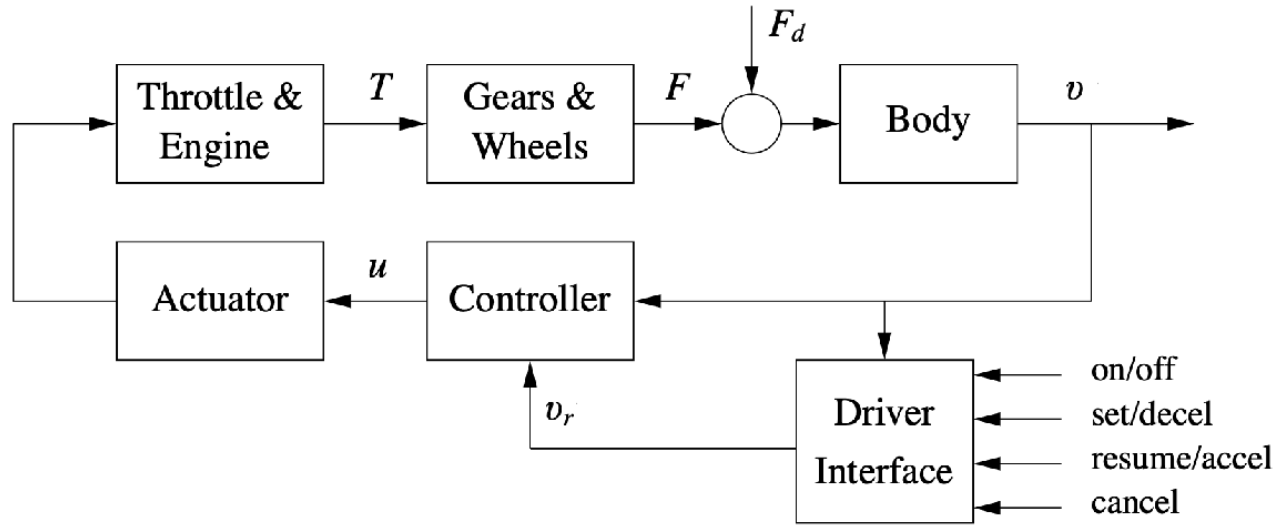

Figure 3. Block diagram of a cruise control system for a car.
The cruise control system of a car aims to keep a steady velocity despite disturbances mainly due to varying road inclines. The controller compensate for these uncertainties by monitoring the vehicle's speed and adjusting the throttle accordingly. The system is modelled in the block diagram shown in Fig. 3 (see also Sec. 4.1 of the book "Feedback Systems: an Introduction for Scientists and Engineers, Second Edition", by KJ Åström and RM Murray). In the diagram,  $v$  represents the car's speed, while  $v_r$  denotes the desired (reference) speed. The controller, usually of a proportional-integral (PI) type, processes the signals  $v$  and  $v_r$  and produces